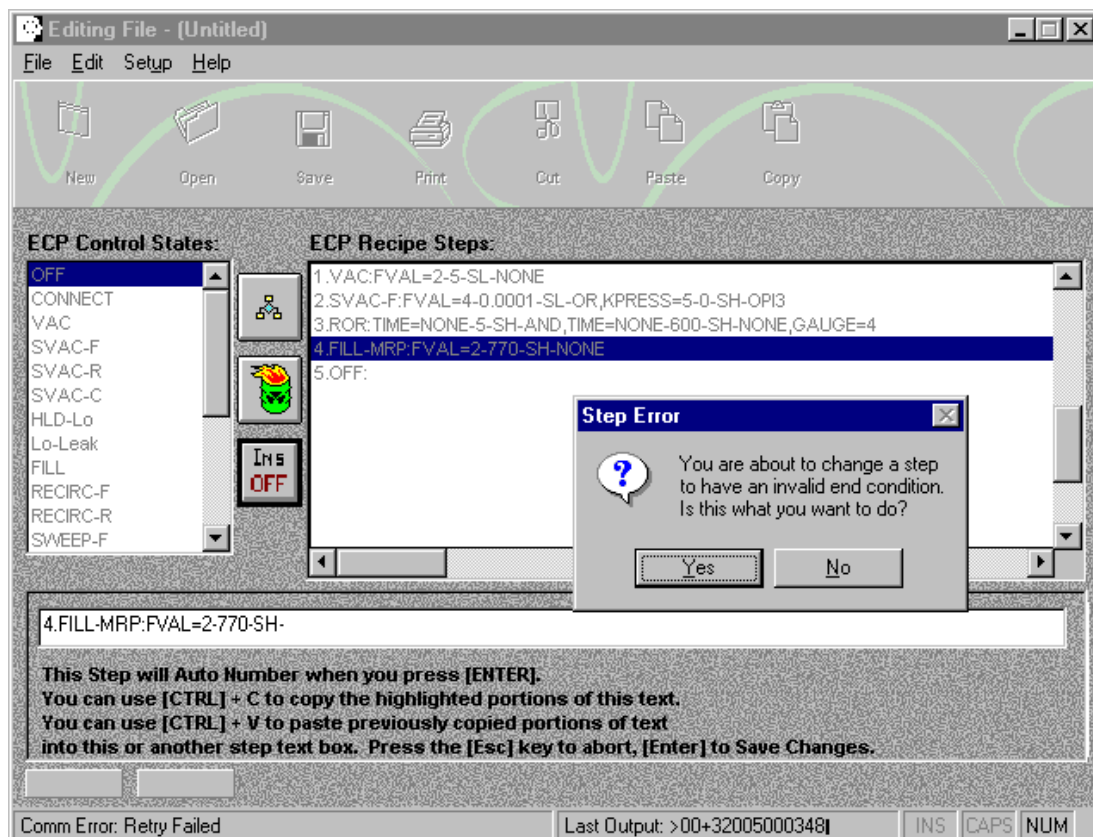

Figure 4-5 Edit FILL-MRP Step
- J. Now double click on the FILL-MRP step (step 4) in the ECP Recipe Steps window and note that the step edit window appears towards the bottom of the screen, see figure 4-5.
- K. Highlight the last NONE in the OFF step and press the delete key on the keyboard. Press the Enter key and observe that the error message shown in figure 4-5 appears.